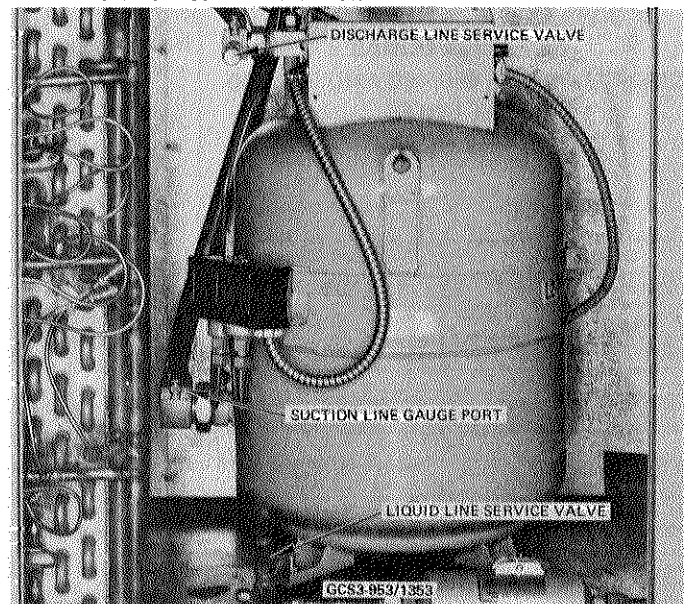
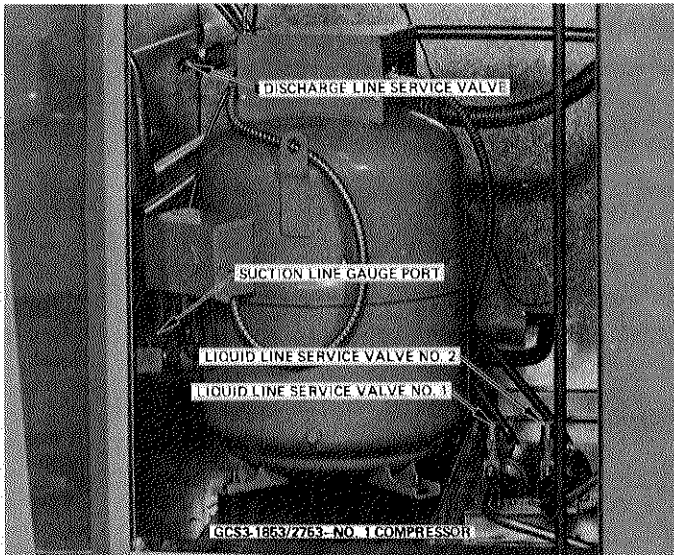

FIGURE 1
FIGURE 2
- 1—GCS3-953 and 1353 units have single stage cooling. Compressor valves and service ports are identified in Figure 1. GCS3-1853 and 2753 units have two stage cooling. No. 1 compressor compartment is on left side of unit when facing condenser coil. No. 2 compressor is on right side. Each compressor has a discharge and liquid line valve. Both liquid line valves are located in No. 1 compressor compartment. Figures 2 and 3 identify all service valves. Each circuit must be checked for proper charge separately. Attach gauge manifold to No. 1 circuit first.